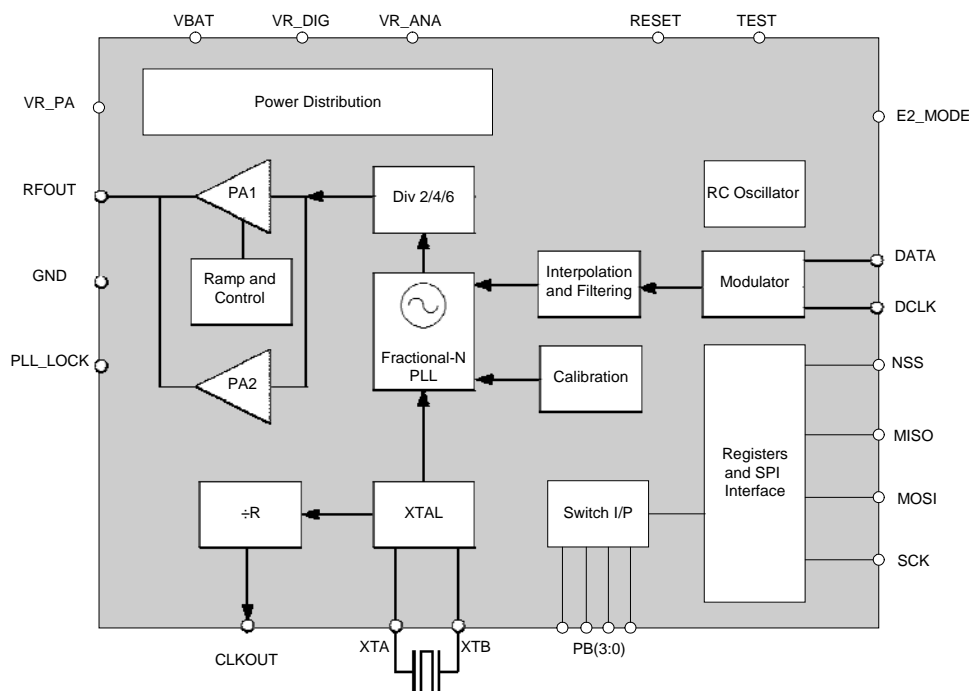

Figure 1. RFM67W Simplified Block Diagram
The general architecture of the RFM67W is shown in Figure 1. The frequency synthesizer generating the LO frequency is a third-order fractional-N sigma-delta PLL. The PLL is capable of fast auto-calibration and offers fast switching and settling times. For frequency modulation ((G)FSK and (G)MSK), the modulation is performed within the PLL bandwidth. Optional pre-filtering of the bit stream may also be enabled to reduce the power delivered to adjacent channels.